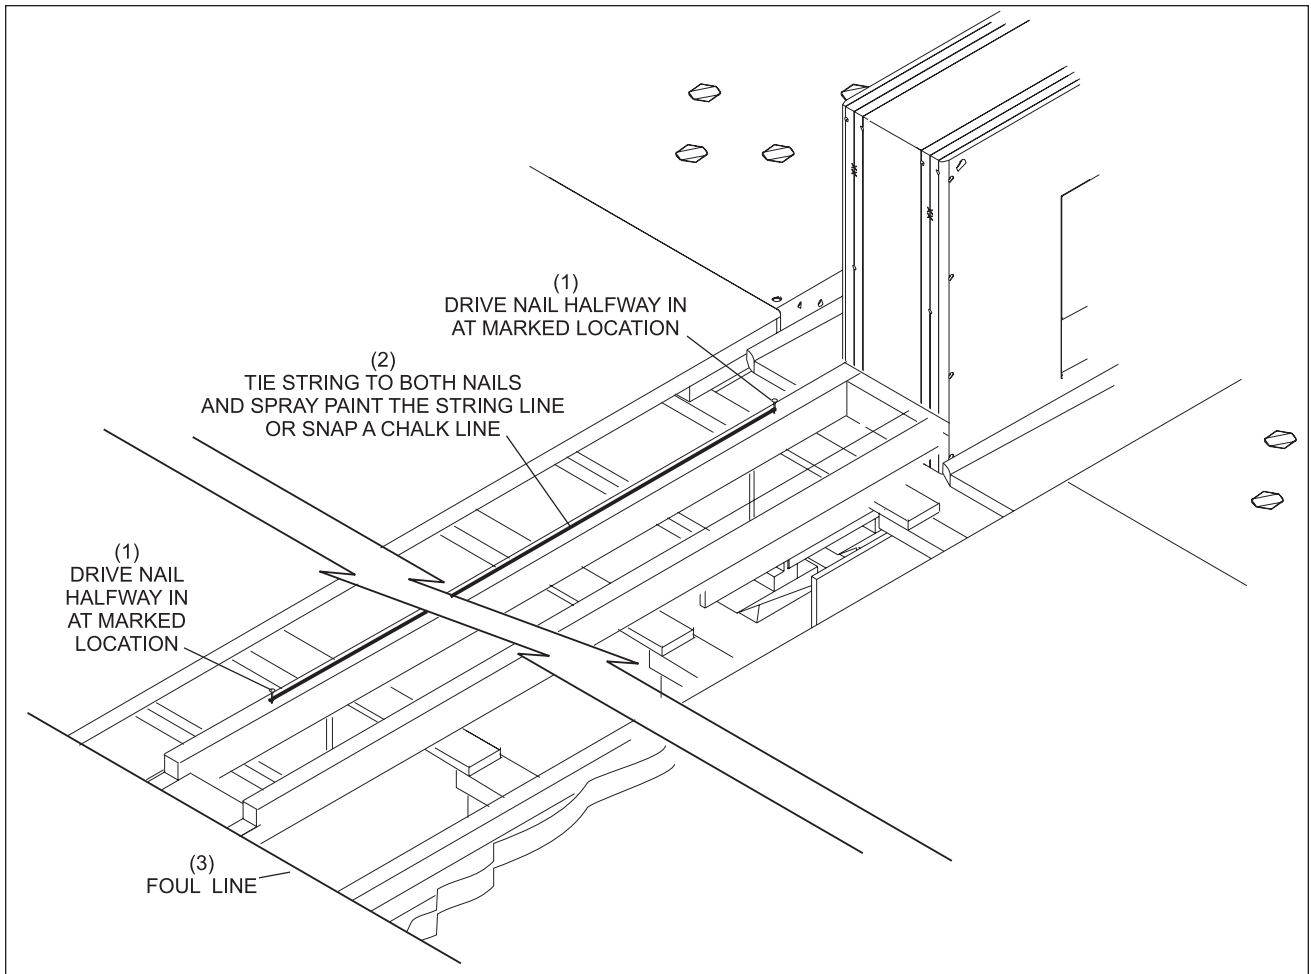

Figure 23. Mark Capping Support
5. Hammer a nail partially into the support frame on the marked locations at the pinsetter end and the approach end. Refer to *Figures 23 and 24*.
6. Tie string between nails on support frame and spray paint a line or use a chalk line to snap a line. Refer to *Figure 23*.